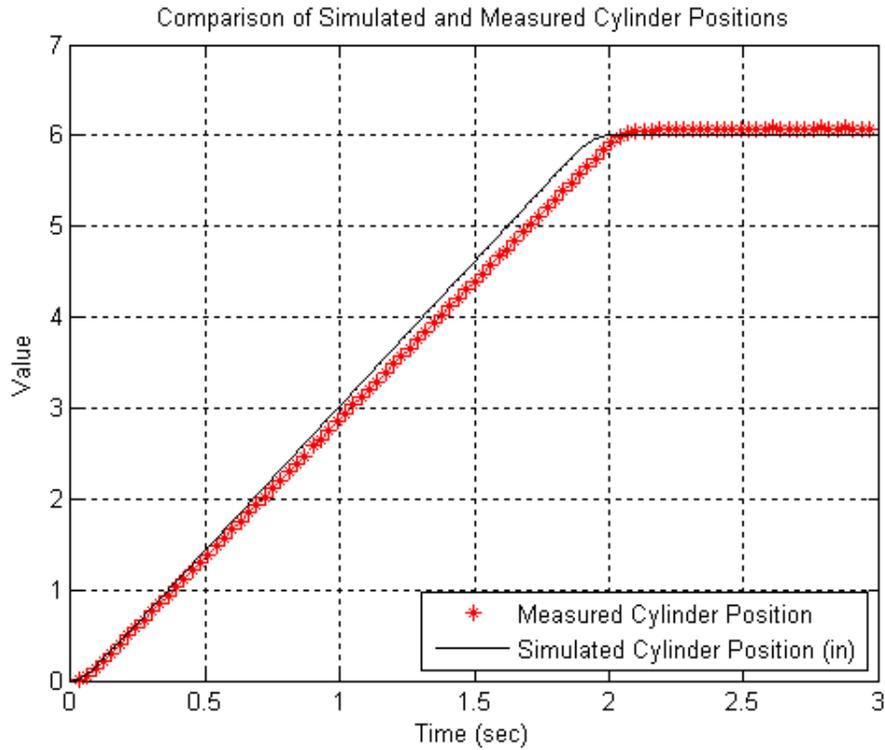

Figure 5. Closed Loop Cylinder Step Response (6 inch step)
- **Fig. 5** shows the results using a proportional gain of $K = 25$, saturation limits of ± 10 volts, and a dead-band of ± 0.5 volts. Note the *valve command* is *saturated* for about the first 1.8 seconds of the run forcing the cylinder to run at maximum speed until it is close to the final value. At that point the valve command quickly decreases to its minimum value.